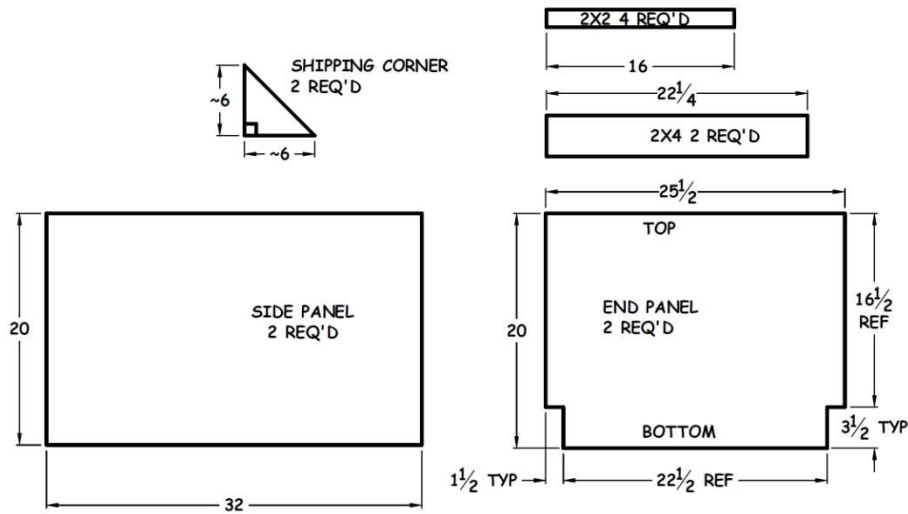
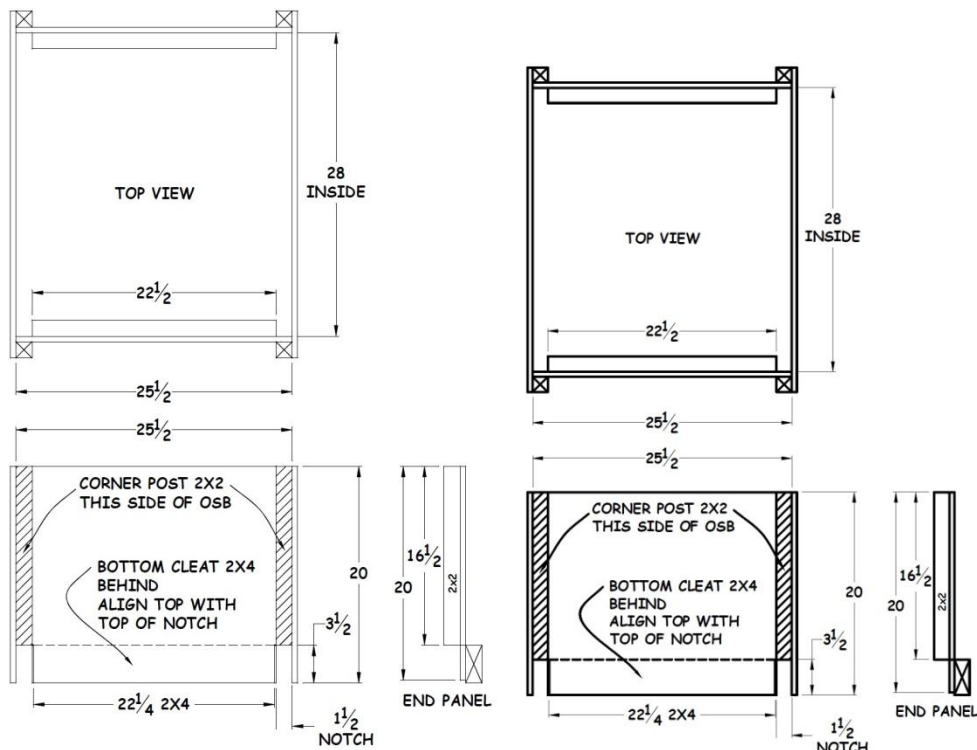

Figure 7-4. House Scuttle Box Cut Diagram.
Figure 7-5. House Scuttle Box Assembly.
1. Typically, the house scuttle box is pre-built and delivered to the site prior to the day it is to be installed. If it has not been built, use the following instructions to build one. See Figure 7-3 for a picture of the finished house scuttle box and Figure 7-4 and Figure 7-5 for a cut diagram and assembly drawing, respectively.
3. Cut notches 3 1/2" high x 1 1/2" long in the long edge of the two End Panels (see Figure 7-4). These will be the bottom edges of the two ends.
4. Refer to Figure 7-5 for Scuttle Box Assembly. On the rough side of the End Panel, attach a 2x2x16" long Corner Post at each end using 1 5/8" sheetrock screws, through the OSB into the 2x2, one 2" from each end and two more roughly equally spaced between. Align the end of each 2x2 flush with the top of the notch, and the long edge flush with the end of the Panel. Repeat for both End Panels.